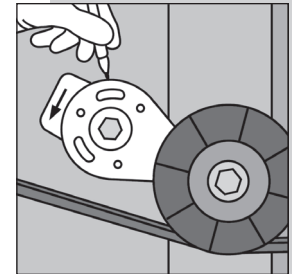

Fig. 2
8. The tensioner spring is not yet under tension. Put the idler in light contact with the belt(s) and rotate the tensioner base clockwise if the arrow points to "CW" or counterclockwise if the arrow points to "CCW" until you feel light spring pressure. Use a marking pencil to mark a line on both the housing and base of the tensioner. This will be reference point 0° for establishing tensioner force and degrees of rotation. See Fig. 2.